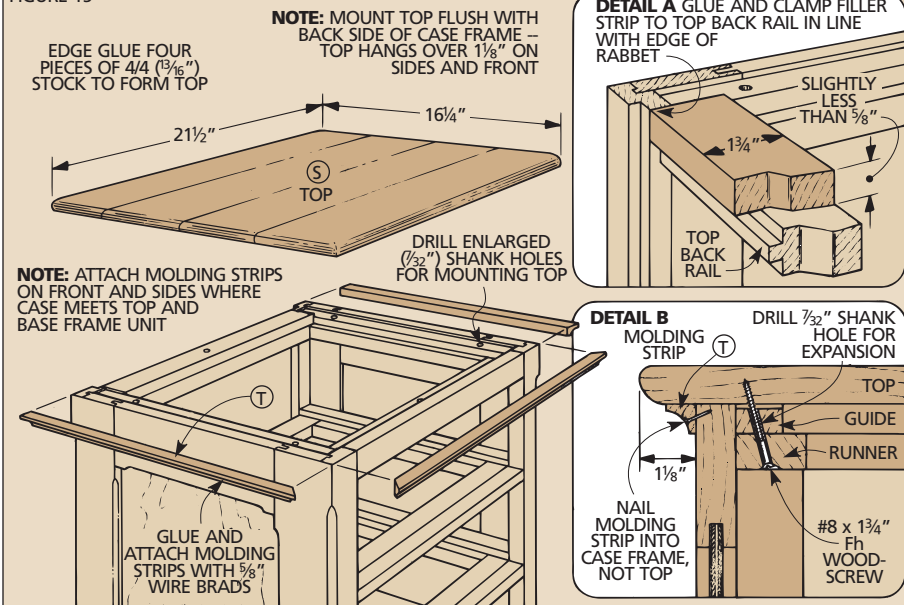
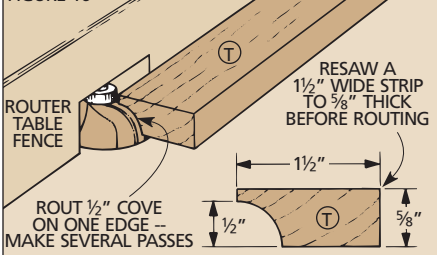

FIGURE 16
FIGURE 17
MAKING THE STRIPS. To make the six strips (T), start by resawing some 1 1/2"-wide stock to 5/8" thick. Then rout a 1/2" cove on one edge, see Fig. 16. Next, trim the molding off the outside edge of the workpiece, see Fig. 17.